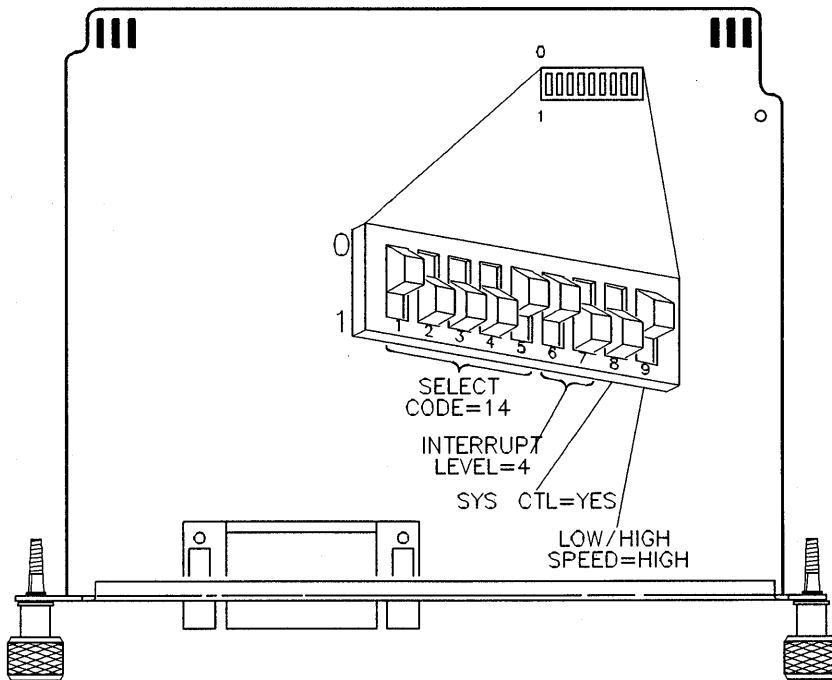

Figure 10-5.
Refer to Figure 10-5 for switch and jumper positions.
2. Find the set of nine switches by referring to Figure 10-5. Switches 1 through 5 in this group determine the select code.
- Find the set of nine switches by referring to Figure 10-5. Switches 6 and 7 in this group determine the interrupt level.
- If using HP-UX, set these switches to interrupt level 4 as shown in Figure 10-5. To get interrupt level 4, set the left switch to 0 and the right switch to 1. *Do not set any other interface to interrupt level 4.*
1. Find the set of nine switches by referring to Figure 10-5. Switch 8 in this group determines the system controller setting.
2. If connecting two controllers together via HP-IB, only one of them may be set to system controller. To change this interface to non-system controller, move the system controller switch shown in Figure 10-5 to the 0 position (the opposite of that shown).
SKIP? The Low/High Speed switch is preset to 0, "high speed," as shown in Figure 10-5. This setting is appropriate for most applications. If you want to change this setting, continue with this section.
1. Find the set of nine switches by referring to Figure 10-5. Switch 9 in this group is the Low/High Speed switch.
- To set this switch to "low speed," set switch 9 to 1, which is opposite of that shown in Figure 10-5.
- To set this switch to "high speed," set switch 9 to 0 as shown in Figure 10-5.